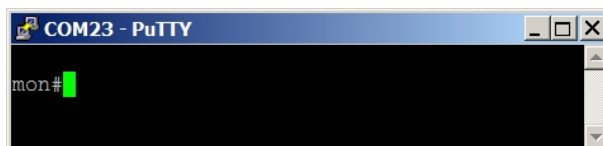

Figure 6: Open terminal window for module configuration via serial line
Click on „Open” button in „PuTTY” program and open the terminal window. After pressing of „ENTER” key there will appear a command prompt „sysmon” which announces that the module is ready to be configured (see figure 6).
- the command must be entered only when a prompt for command appears in front of the cursor mark (colored or flashing little square); the prompt is either „sysmon” or „mon” format (see figure 6);